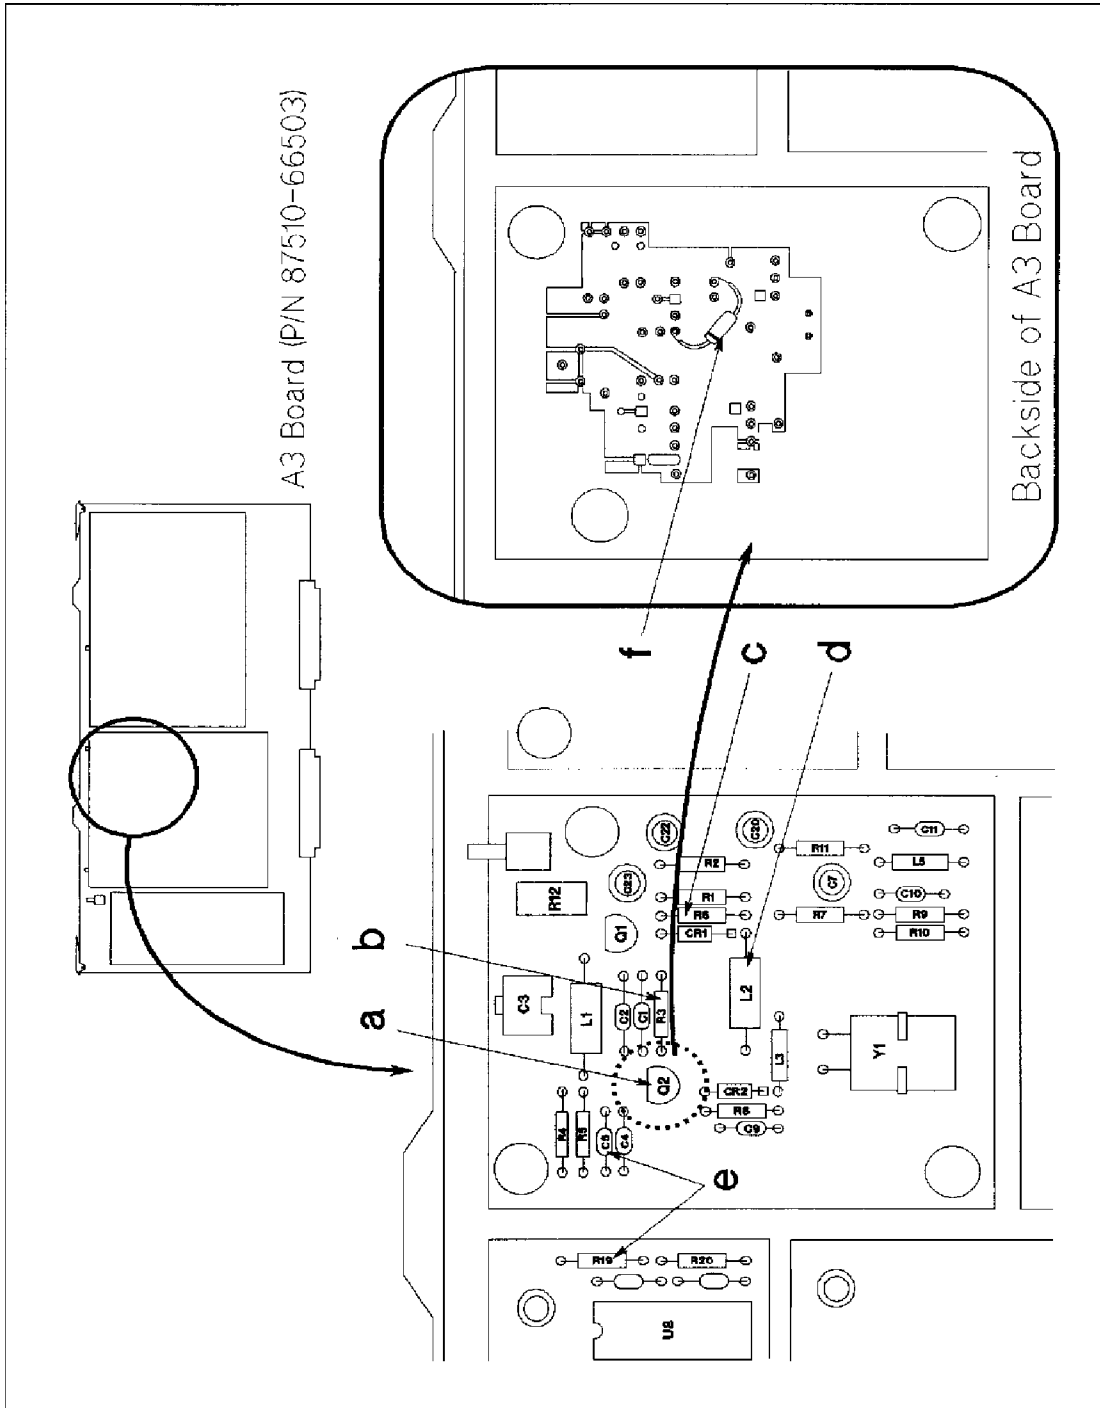

Figure 1. A3 Board Modification
3. Modify the A3 board with referring Figure 1: